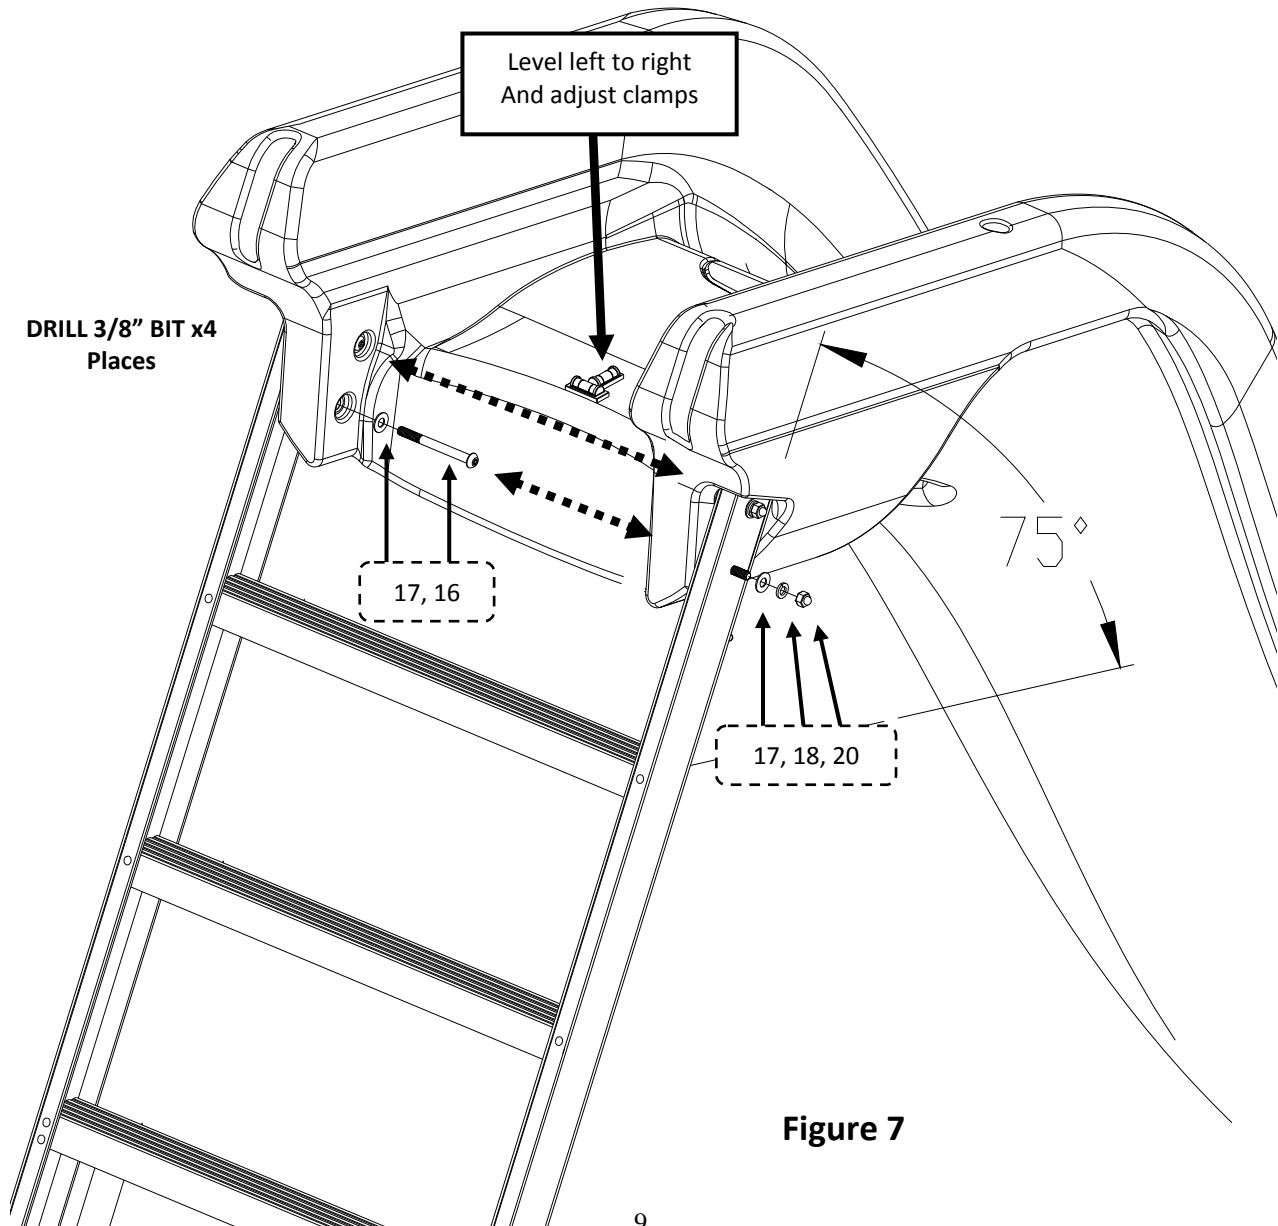

Figure 7
- 7) Drill two 3/8" diameter holes through each of the ladder side rails using the holes in the slide as a drill guide. See Figure 7
- 8) Secure the ladder to the slide using the hardware as shown in Figure 7. Insert a (#16) 3.5" Button Head Screw with a (#17) Flat Washer though each drilled hole. Fasten each screw using a (#17) Flat Washer, (#18) Lock Washer, and (#20) Acorn Nut.